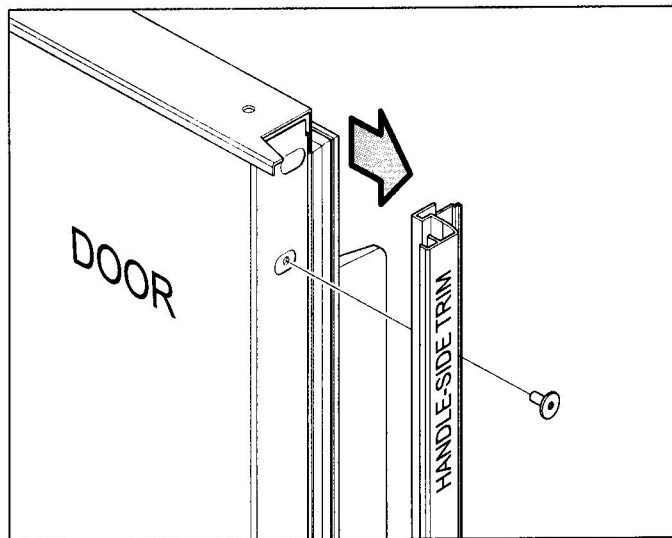

Figure 7-86. Handle / Handle-Side Trim Removal
2. With a T-20, 6-lobe Torx type bit, extract the handle-side trim mounting screws and pull the trim from the door (See Figure 7-86).